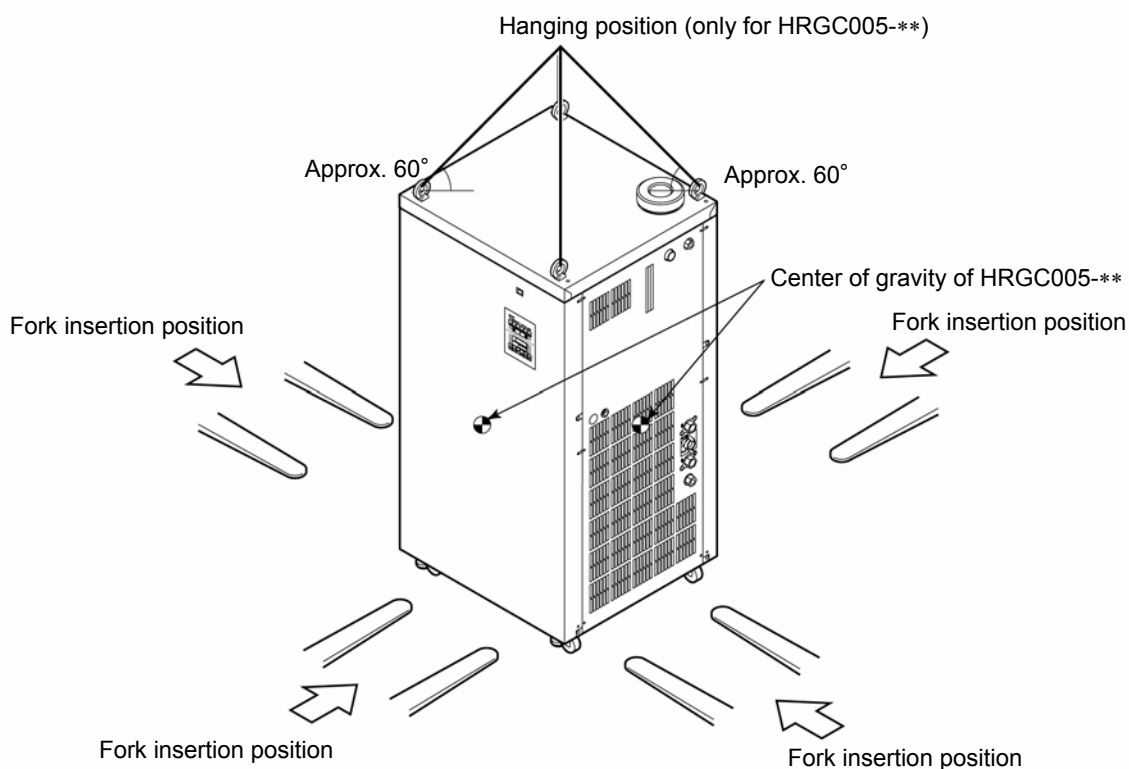

Fig.3-1 Fork insertion position and hanging method
- If a fork lift is used for transport, check the fork is inserted in place as specified in “Fig. 3-1 Fork insertion position and hanging method”. At that time, do not get the fork contact to the caster.